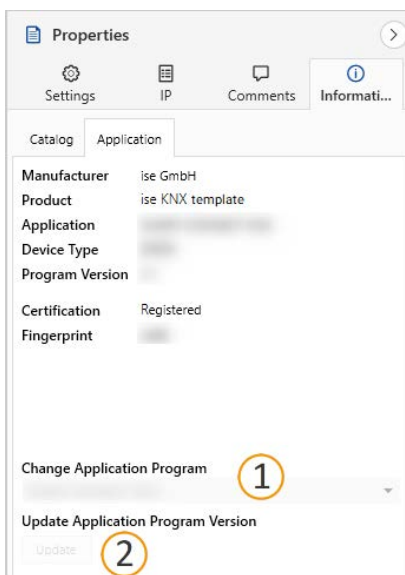

Figure 20: Updating the application program
5. Select the <<Update>> button under the item <<Update Application Program Version>> (see figure 20, item 2).
○ If you change the value under <<Change Application Program>> (see figure 20, item 1), user-defined settings such as links to group addresses will be lost.